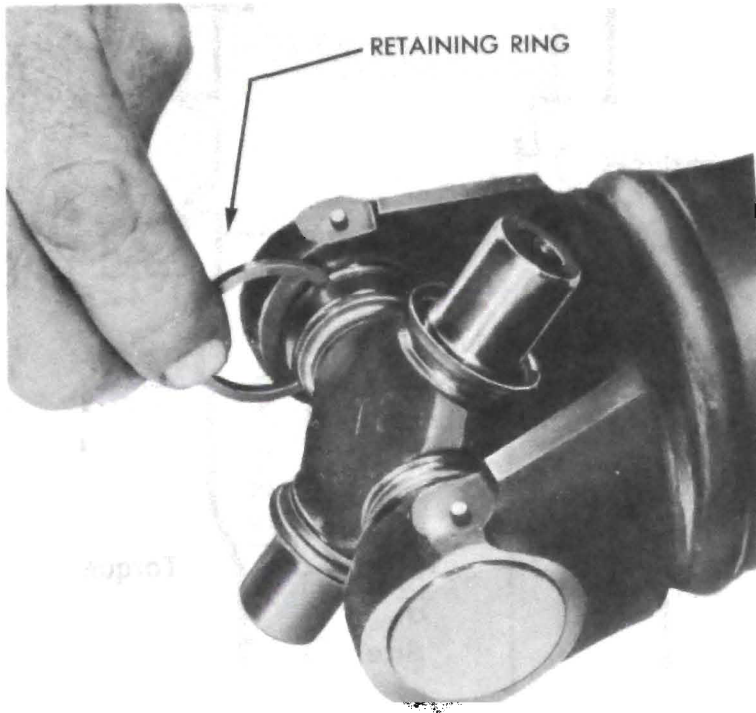

Figure 40-72 Installing Retaining Ring
5. As soon as one snap ring groove clears the inside of the yoke, stop pressing and snap the retaining ring into place. See Figure 40-72.